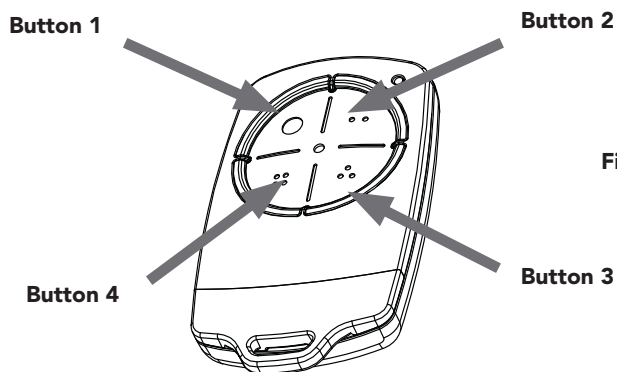

Fig.6.6.2
- Press one of the four (4) buttons on the Premium Remote Control (3A) (**Fig 6.6.2**) until the main light starts to flash rapidly, then release Premium Remote Control button.